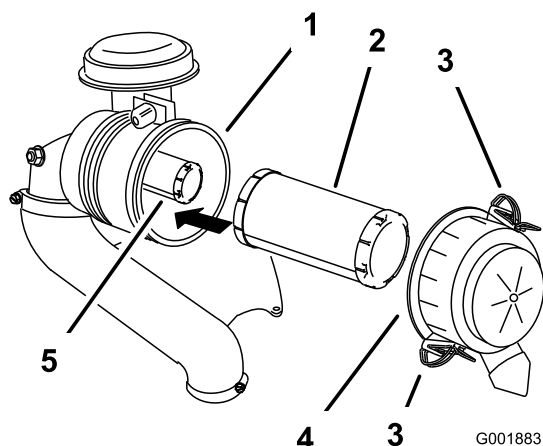

Figure 43
6. Release the latches on the air cleaner and pull the air-cleaner cover off the air-cleaner body (Figure 43).
8. Gently slide the primary filter out of the air-cleaner body (Figure 43).
2. If you are replacing the inner filter, carefully slide it into the filter body (Figure 43).
3. Carefully slide the primary filter over the safety filter (Figure 43).
4. Install the air-cleaner cover and secure the latches (Figure 43).